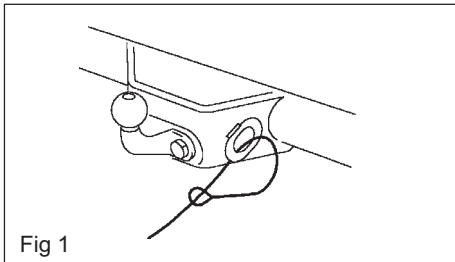

Fig 1
- a) Pass the cable through the attachment point and clip it back on itself (Fig 1.)